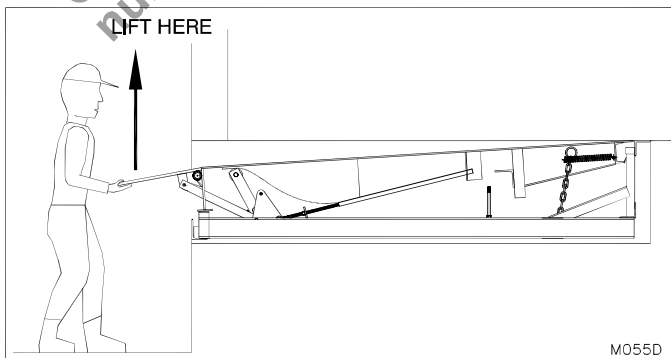

Figure 41: Lift Until Liplock Releases
5. With the deck raised, begin "walking" the dock leveler down until it bottoms out on the deck stops. **NEVER WALK ON THE LIP TO LOWER THE DOCK LEVELER.** (See Figure 41: Walk Down the Deck on page 32). If the dock leveler walks down with an acceptable lowering force, then the complete step 7.
8. Make sure the dock leveler lip assist spring adjustment is set at the correct level as per the instructions on (see "LIP ASSIST SPRING ADJUSTMENT" on page 52). This is a vital adjustment. Proper adjustment of the lip assist spring will allow the lift spring adjustment to be minimized and avert the issues listed item 5 above.
(See Figure 41: Lift Until Liplock Releases 32 on page 62)